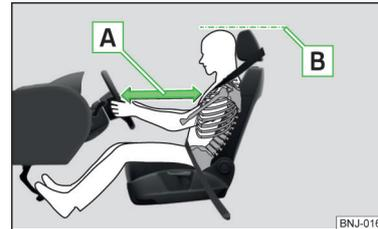

Fig. 1
- ✓ Adjust the steering wheel so that the distance **A** between the steering wheel and your chest is at least 25 cm » Fig. 1. Adjust the steering wheel » page 10, *Adjusting the steering wheel position*.
- ✓ Adjust the head restraint such that the top edge of the head restraint is at the same level as the top of your head ¹⁾ **B** » Fig. 1.
- ✓ Adjust the head restraint such that the top edge of the head restraint is at the same level as the top of your head ¹⁾ **B** » Fig. 1 on page 9.
- ✓ Adjust the head restraint such that the top edge of the head restraint is at the same level as the upper part of the head  » Fig. 1 on page 9.